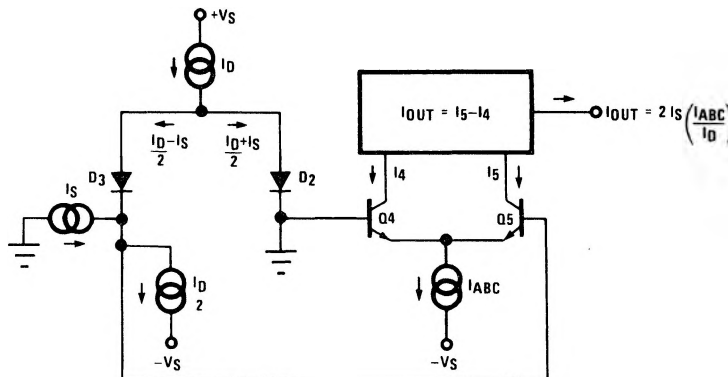
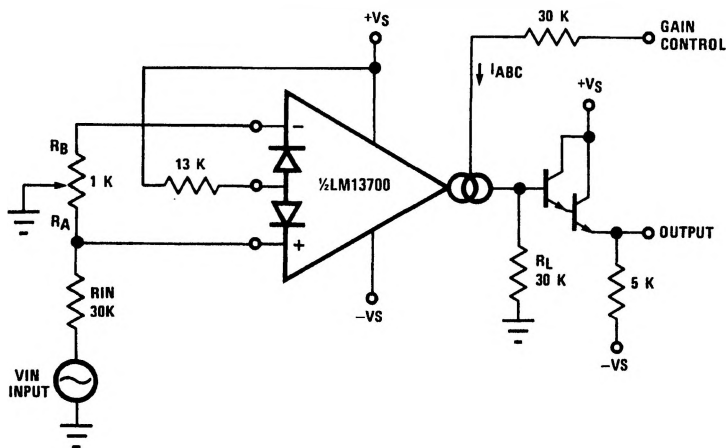
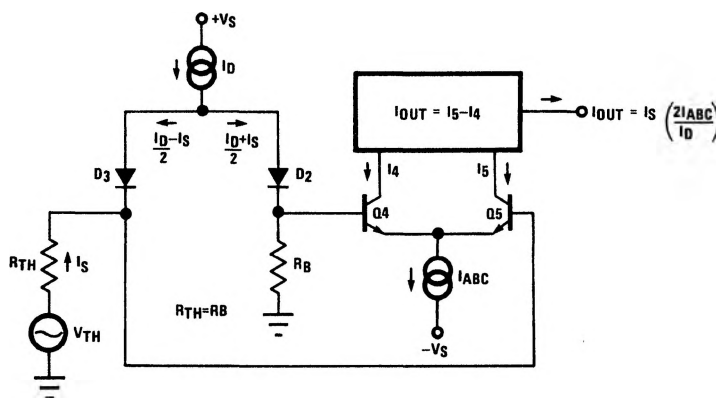
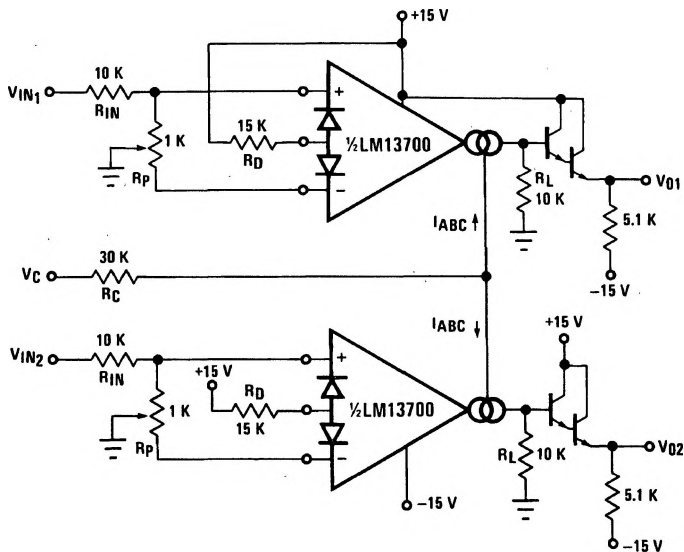

FIGURE 1. Linearizing Diodes
FIGURE 2. Voltage Controlled Amplifier
FIGURE 3. Equivalent VCA Input Circuit
FIGURE 4. Stereo Volume Control
For differential voltages greater than a few millivolts, Equation 3 becomes less valid and the transconductance becomes increasingly nonlinear. *Figure 1* demonstrates how the internal diodes can linearize the transfer function of the amplifier. For convenience assume the diodes are biased with current sources and the input signal is in the form of current  $I_S$ . Since the sum of  $I_4$  and  $I_5$  is  $I_{ABC}$  and the difference is  $I_{OUT}$ , currents  $I_4$  and  $I_5$  can be written as follows:
*Figure 2* shows how the linearizing diodes can be used in a voltage-controlled amplifier. To understand the input biasing, it is best to consider the 13 k $\Omega$  resistor as a current source and use a Thevenin equivalent circuit as shown in *Figure 3*. This circuit is similar to *Figure 1* and operates the same. The potentiometer in *Figure 2* is adjusted to minimize the effects of the control signal at the output.
For optimum signal-to-noise performance,  $I_{ABC}$  should be as large as possible as shown by the Output Voltage vs. Amplifier Bias Current graph. Larger amplitudes of input signal also improve the S/N ratio. The linearizing diodes help here by allowing larger input signals for the same output distortion as shown by the Distortion vs. Differential Input Voltage graph. S/N may be optimized by adjusting the magnitude of the input signal via  $R_{IN}$  (Figure 2) until the output
The circuit of Figure 4 uses the excellent matching of the two LM13700 amplifiers to provide a Stereo Volume Control with a typical channel-to-channel gain tracking of 0.3 dB.  $R_p$  is provided to minimize the output offset voltage and may be replaced with two 510 $\Omega$  resistors in AC-coupled applications. For the component values given, amplifier gain is derived for Figure 2 as being:
Noting that the gain of the LM13700 amplifier of *Figure 3* may be controlled by varying the linearizing diode current  $I_D$  as well as by varying  $I_{ABC}$ , *Figure 7* shows an AGC Amplifier using this approach. As  $V_O$  reaches a high enough amplitude ( $3V_{BE}$ ) to turn on the Darlington transistors and the linearizing diodes, the increase in  $I_D$  reduces the amplifier gain so as to hold  $V_O$  at that level.